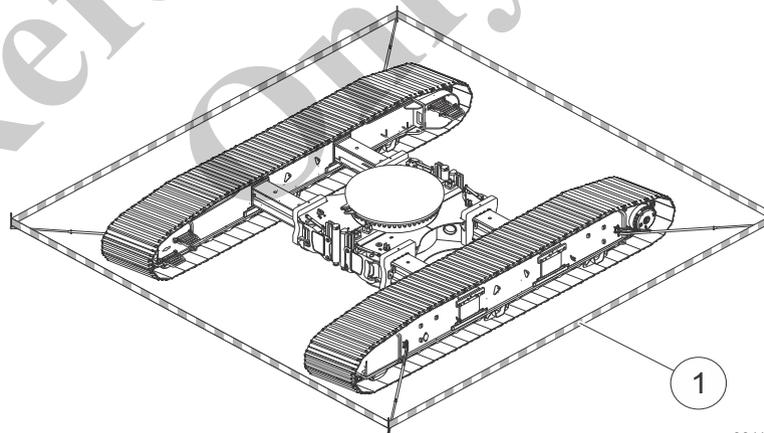

Fig. 109 Applying barrier tape
- 6 Apply barrier tape (1) in Fig. 109.